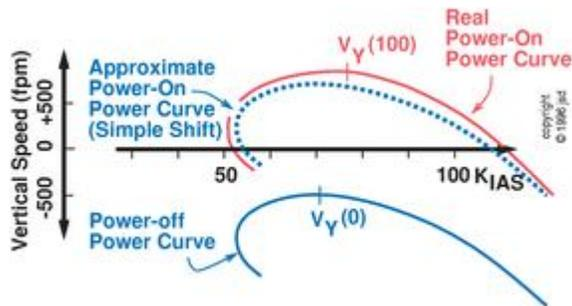

Figure 7.10: Power Curve Affected by Engine & Propeller Efficiency
We can write $V_Y(100)$ to denote the airspeed for best rate of climb when the engine is producing 100% of its rated power, while $V_Y(0)$ denotes the airspeed for minimum sink (best endurance) with zero engine power. The relationship between these quantities could be seen by comparing figure 7.5 and figure 7.6. We will now try to better understand the relationship, with the help of figure 7.10. The power-off performance is represented by the solid blue curve, while the power-on performance is represented by the solid red curve. The dotted blue curve does not represent the
It would be nice if engine efficiency and propeller efficiency were independent of airspeed, but this is only approximately true. Designers often sacrifice a little climb performance in order to get better cruise performance. This means that the effect of engine power is to raise some parts of the power curve more than others, as shown in figure 7.10.
- Obviously there is no point in asking about $V_Y(100)$ at an altitude where the engine is not capable of producing anywhere near 100% of its rated power. Instead we might ask about $V_Y(ft)$, where "ft" stands for full throttle. For a non-turbocharged airplane, $V_Y(ft)$ will decline somewhat as altitude increases, for reasons discussed in connection with figure 7.10.